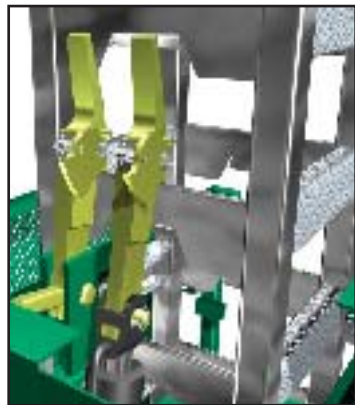

Fig. 4.11
- 3- Make sure the engine is running at full throttle and that the cylinder hook and the secondary hook are side by side and properly engaged on the same rung (fig. 4.11, p. 29).
Make sure the cylinder hook and the secondary hook are properly engaged on the mast rung before raising or lowering platform (fig. 4.9). Failure to engage hooks properly can cause the platform to drop. For additional safety, it is also recommended that any rise or descent operation be done only when the secondary hook is engaged on the mast rung and side by side with the cylinder hook (fig. 4.11, p. 29).
- 3- Make sure the engine is running at full throttle and that both the cylinder hook and the secondary hook are side by side and properly engaged on the same rung (fig. 4.11).